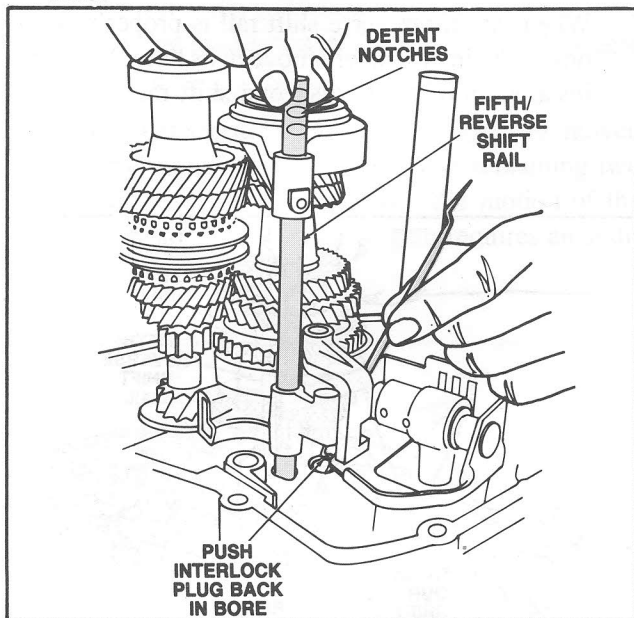

Figure 117 Shift Rail Installation
9. Carefully raise and lower the fifth/reverse shift rail in slight amounts while pushing the interlock plug back into its bore. (Figure 117).